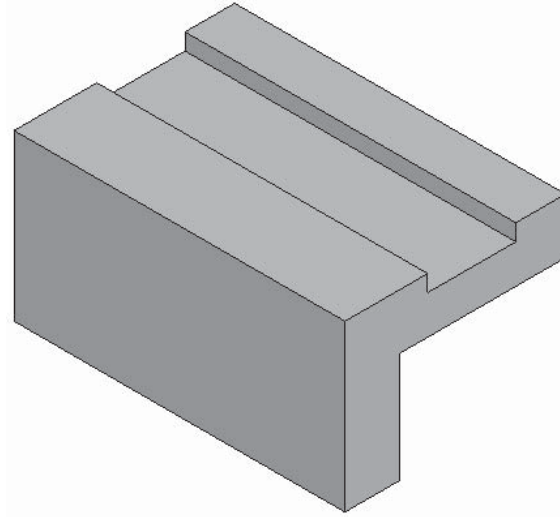

Figure 4-57 Base feature of the model
- Create the base feature on the y-z plane, refer to Figure 4-57.
6. Choose **Finish** from the ribbon bar. The base feature of the model is shown in Figure 4-57.